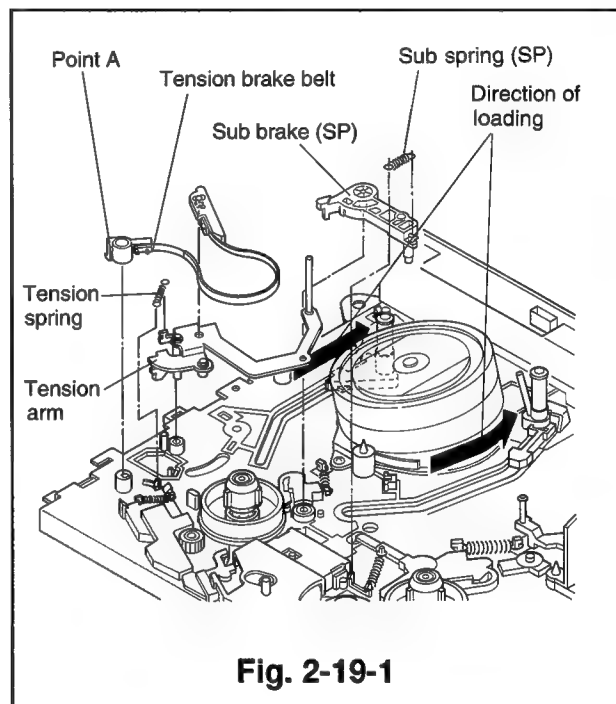

Fig. 2-19-1
- ① Remove the cassette housing. (Refer to Para. 2-1 for removal method.)
- ② Supply a voltage (approximately 5V DC plus voltage on the red wire) to the loading motor and slide the tape guide assembly completely to the loaded position, to set it to the loaded position.
- ③ Remove the sub brake (SP) and the sub spring (SP). (Refer to Para. 2-14 for the removal method.)
- ④ Unfasten the catch of the part A on the tension brake belt and raise the part A to unfasten the tension brake belt from the supply reel disk. (Refer to Fig. 2-19-1)